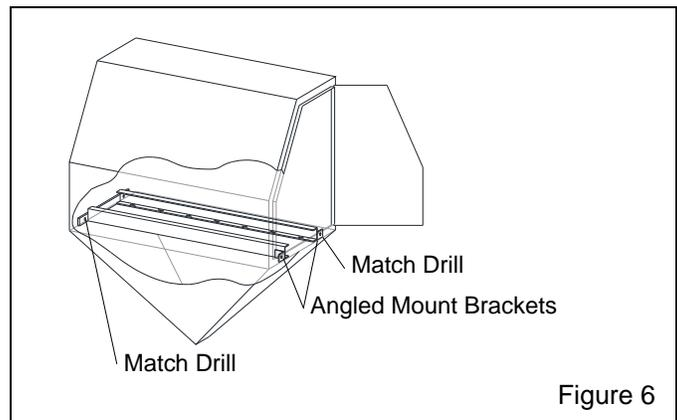

Figure 6
3.3.3 Refer to Figure 6 and center the track and table assembly inside the cabinet on top of the grate. Make sure the two angled mounting brackets are facing toward the door from which the table will slide.